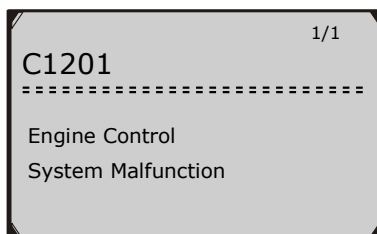

Figure 4.2
- 3) Review selected data on screen. (Figure 4.2)